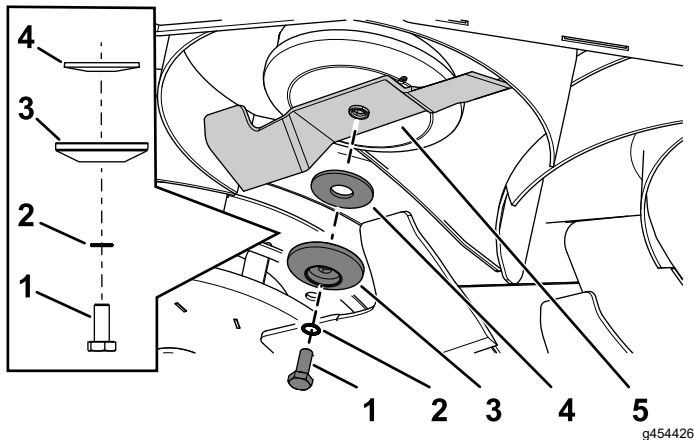

Figure 110
2. Install the blade using the previously removed blade bolt, serrated washer, blade retainer, and curved washer (Figure 110).